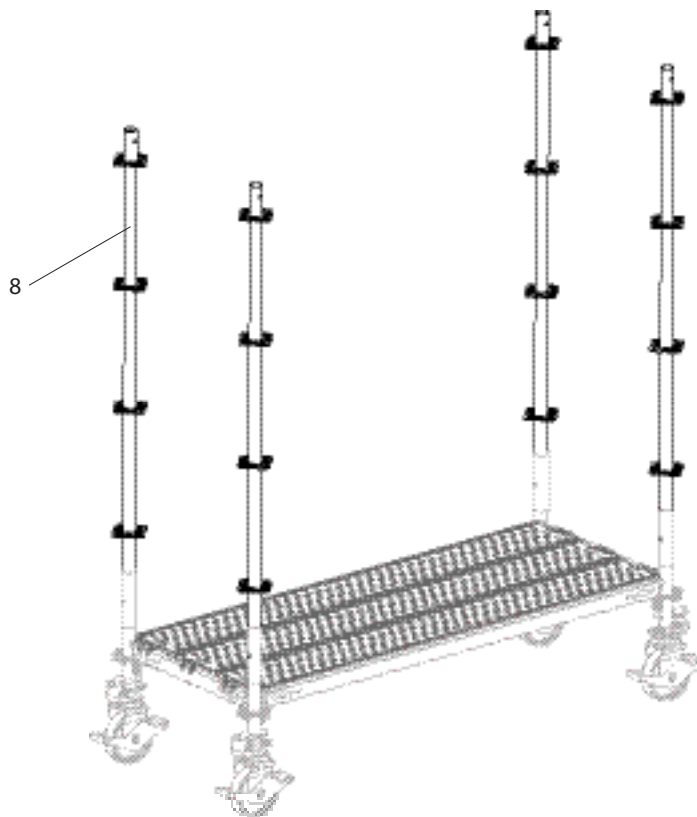

Fig. A4.03
1. Insert Top Standards UVH-2 200 (8) into the base standards. (Fig. A4.03)